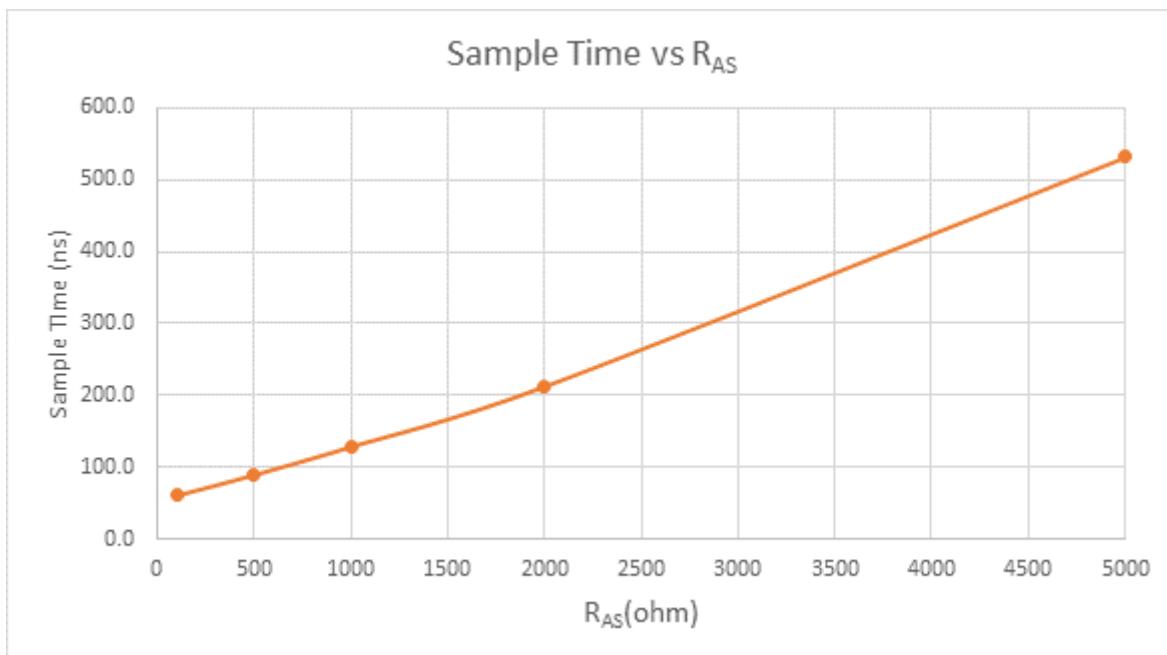

Figure 36. Sample time VS. RAS
4 See Figure 36, "Sample time VS. RAS".
- 4 See Figure 36, "Sample time VS. RAS".